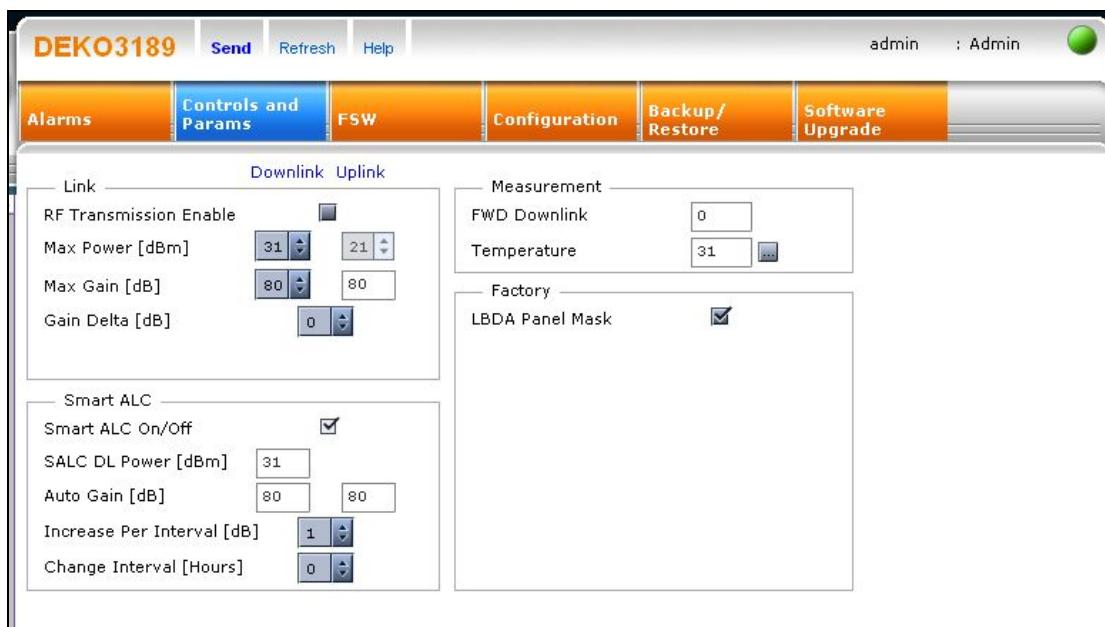

Figure 1: NMS – Controls and Parameters Screen
- 2.2. Chose “Controls and Params “ screen (see figure 1).